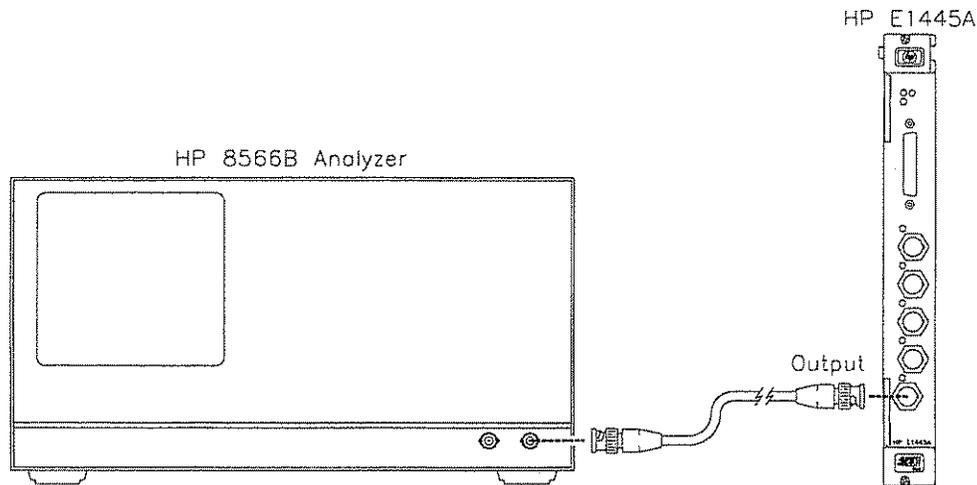

Figure 2-10. Equipment Setup for Test 2-9 and Test 2-10
- Connect equipment as shown in Figure 2-10